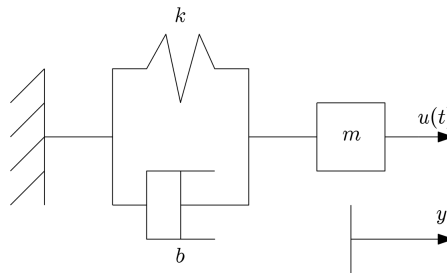

Figure 1 Spring-damper model
In this exercise we will build a Closed-Loop PID Controller from the scratch. Thus, no previous knowledge about control design will be required. As an example throughout this exercise we will use a simple spring-damper model depicted in Figure 1 given the following parameters
- Derive the differential equation for the spring-damper model as depicted in Figure 1!
- Rewrite the differential equation from (a) into a system of differential equations with order 1! Please use the standard matrix notation as presented in exercise (1).
- State the final and initial value theorems! Use the final value theorem to calculate the answer of the system given in Figure 1 to a unit step response for $t \rightarrow \infty$.